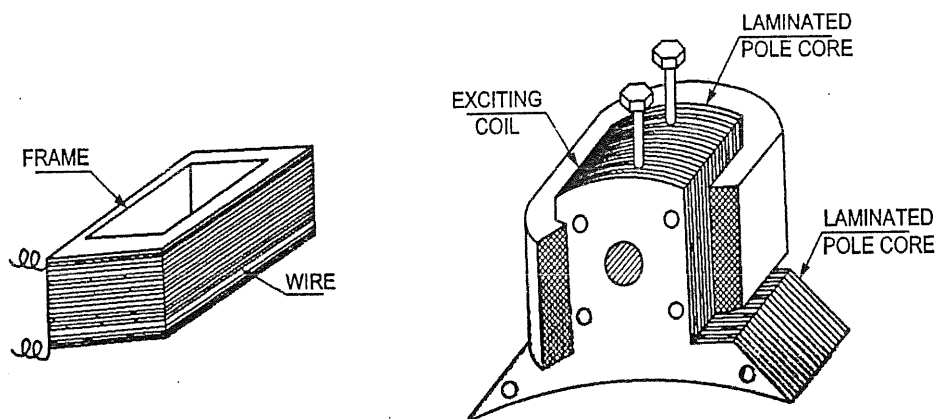

FIG. 4.28.6
- The field coils are placed on pole core as shown in Fig. 4.28.6 and made up of copper wire or strips. When current passes through the coil the poles get magnetised, and produce flux which is required for generation of e.m.f.